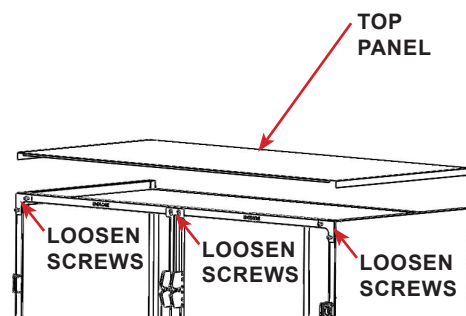

FIGURE 2.60 - Loosen Hardware
**STEP 13:** The trim and cage hardware should be loose, but not removed, from the previous end panel installation procedures. If not, loosen the trim and hardware screws, do NOT remove. See FIGURE 2.60